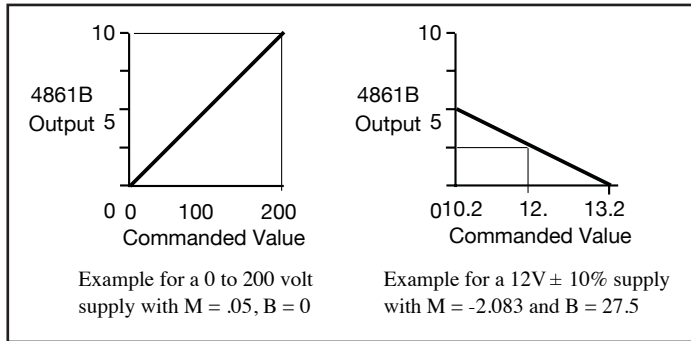

Figure 2 Output Voltages for different Scale Factors and Offsets
Figure 2 shows two examples of output voltage scaling by changing the slope (M) and offset (B) values. Similarly, measured voltages may be scaled to convert the voltage readings to match the measured parameter. (i.e. 0-10 V becomes 0-300 °C). The scaling values may be saved in the 4861B's flash memory.